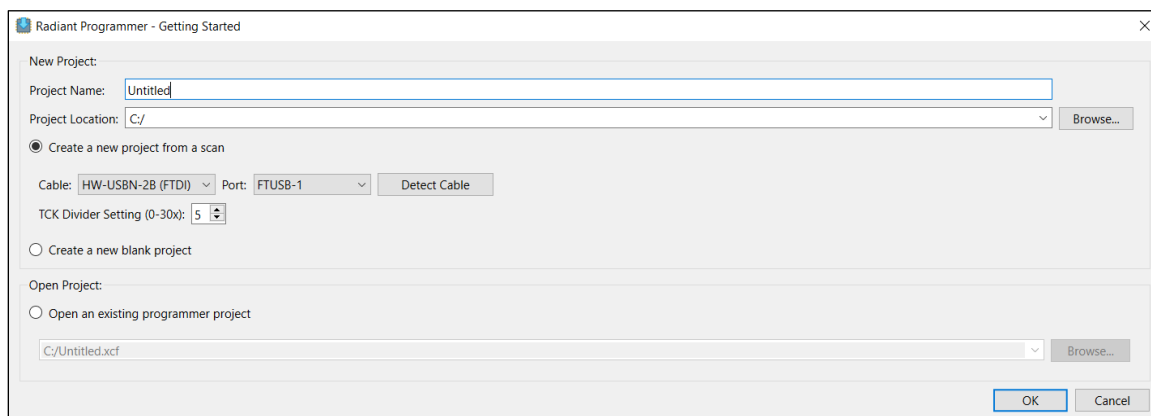

Figure 8.1. Radiant Programmer – Getting Started Window
3. The Radiant Programmer – Getting Started window opens (Figure 8.1).
4. The Radiant Programmer – Getting Started window opens (Figure 8.1).